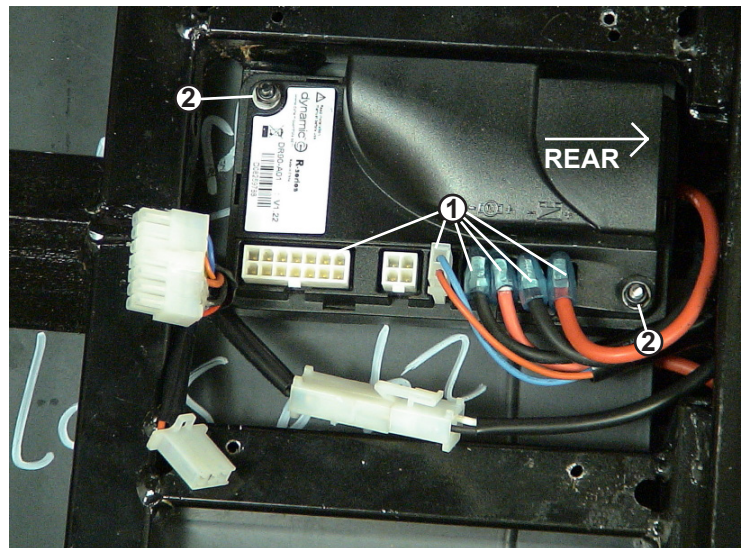

Figure 28. Controller
9. Remove the four (4) screws that fasten the controller cover to the frame.
10. Unplug the wires from the controller. **(See #1 on figure 28.)**
11. Remove the two (2) screws that attach the controller to the frame. **(See #2 on figure 28.)**